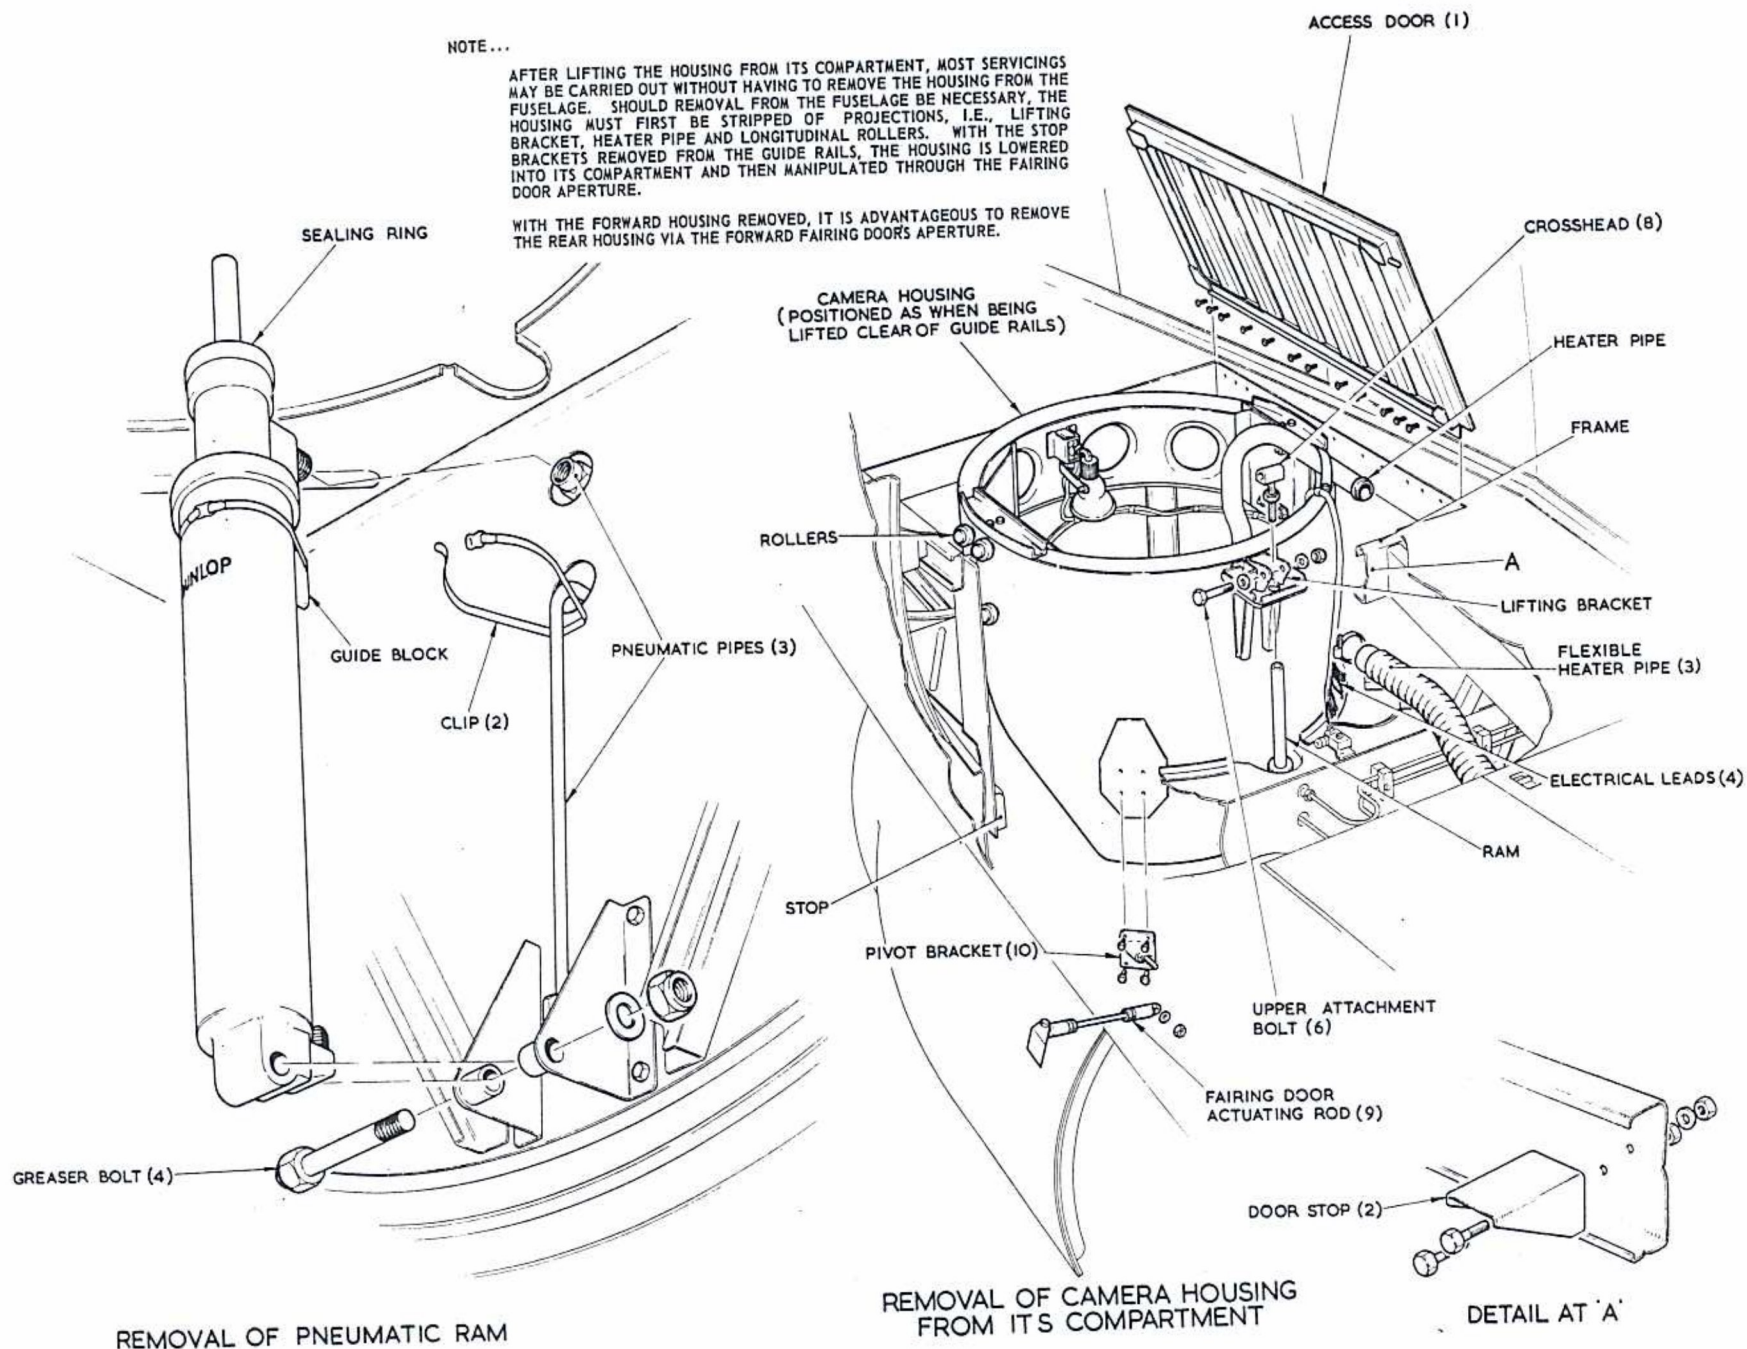

Fig.2., Removal of camera installation components
12. Ensure the electrical supplies are 'off'. If the camera is fitted: remove it, together with its accessories. Refer to fig.2 and proceed as follows:-
- (8) Extend the ram, manually, until the crosshead is clear of the lifting bracket, then unscrew and remove the crosshead.
- (9) Disconnect the fairing door actuating rods from the pivot bracket on the housing.
- (10) Remove the pivot bracket attachment bolts and detach both pivot brackets.
*Ensure that equipment will not impede the ram should it be inadvertently extended by pneumatic pressure which may be introduced into the pneumatic system while the camera housing is not installed. Should it be necessary to remove the housing from the fuselage refer to the 'NOTE' on fig.2.*
## REMOVAL OF PNEUMATIC RAM (fig.2)